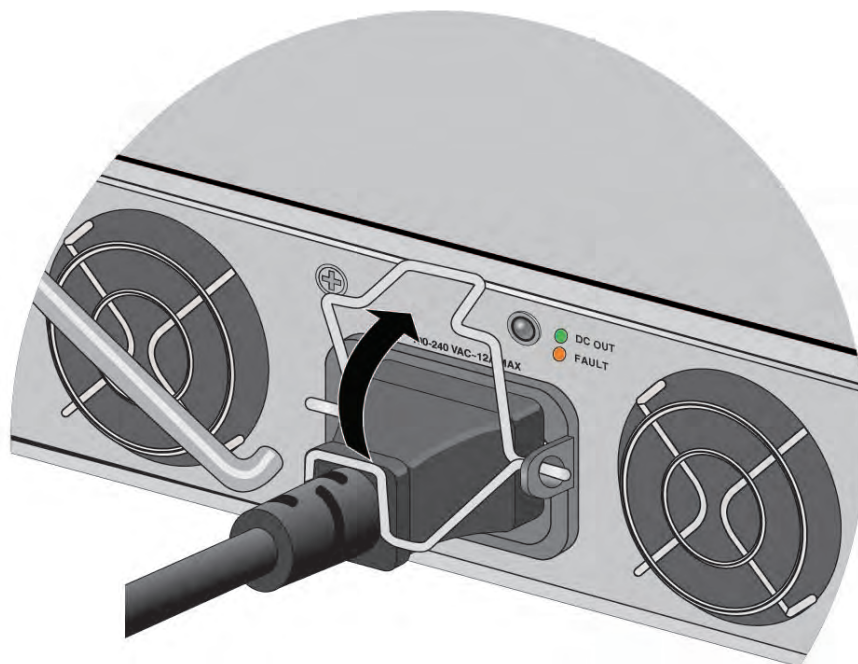

Figure 91. Lifting the Power Cord Restraining Clip
1. Lift the power cord retaining clip on the power supply. Refer to Figure 91. The PWR1200 power supply does not have a retaining clip.